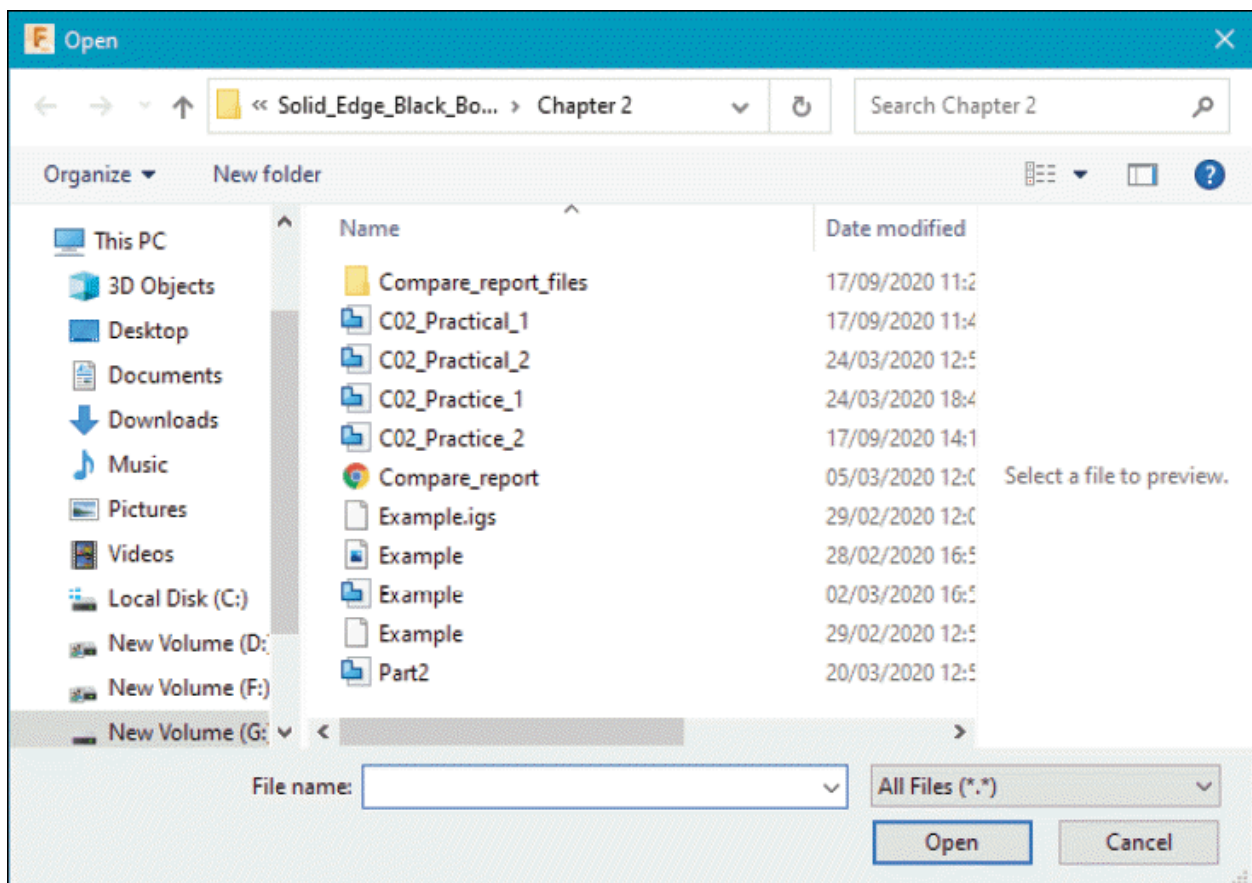

Figure-20. Open dialog box for file upload
- Click on the **Select Files** button to upload files and select multiple files while holding the **CTRL** key from the **Open** dialog box displayed; refer to Figure-20.